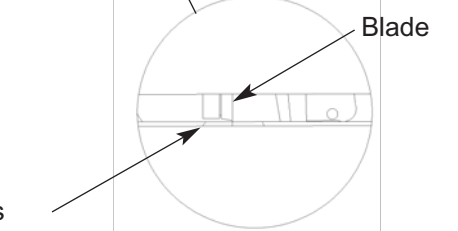

Figure 8
- Align register marks on layout sheets with the cutter blade edges (Figure 8).